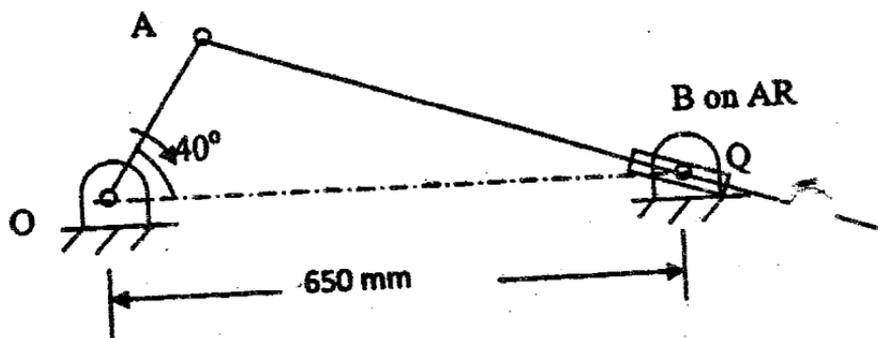

Fig. 1
- (a) Show that an Ackermann steering gear does not satisfy the fundamental equation of steering gear at all positions. Why is it widely used ? (10)
- (b) (i) What is velocity of rubbing ? How is it found ? (3)
- (ii) For the position of the mechanism shown in Fig. 1, calculate the angular velocity of link AR. OA is 300 mm and rotates at 20 rad/s in the clockwise direction. (7)